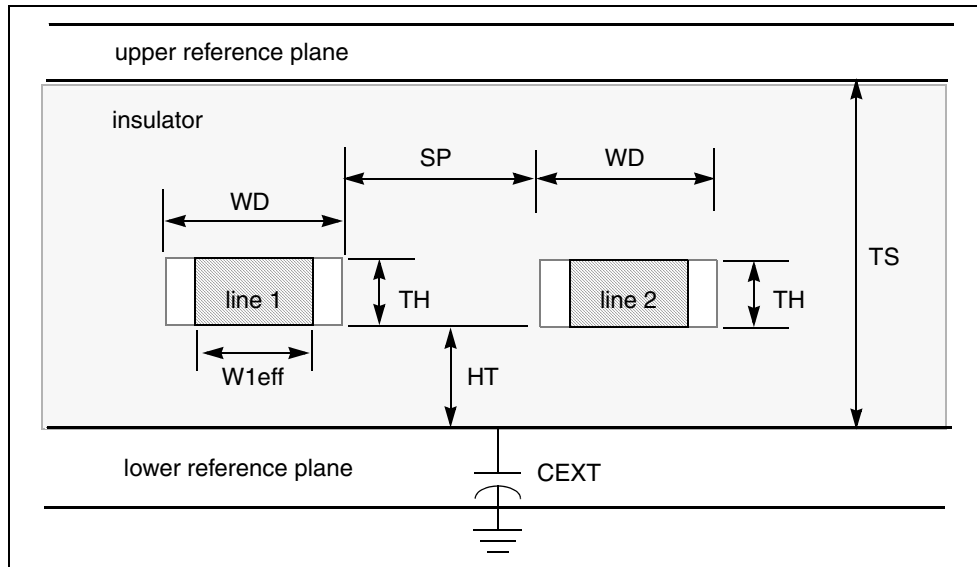

Figure 82 Planar Transmission Line, DLEV=2, Stripline
- DLEV=2 – stripline. This planar conductor has an upper and lower reference plane (see Figure 82 on page 288). Both symmetric and asymmetric spacing are available.